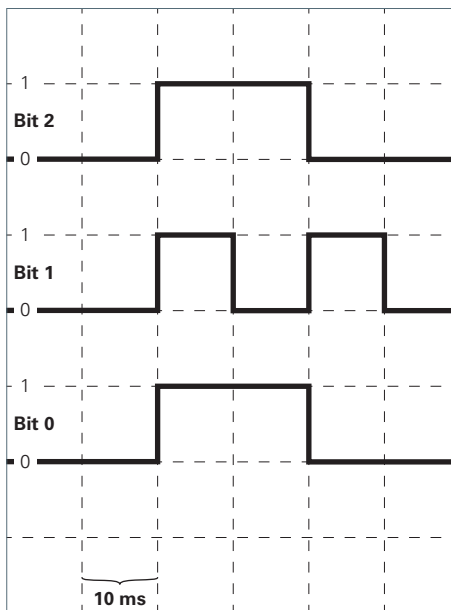

Fig. 9: Bit sequence to deactivate the operating mode "Combined operation WHITE+RGB"
- Send the bit sequence for deactivation to the connection cable with the white luminaires and the RGB luminaire, see Fig. 9.